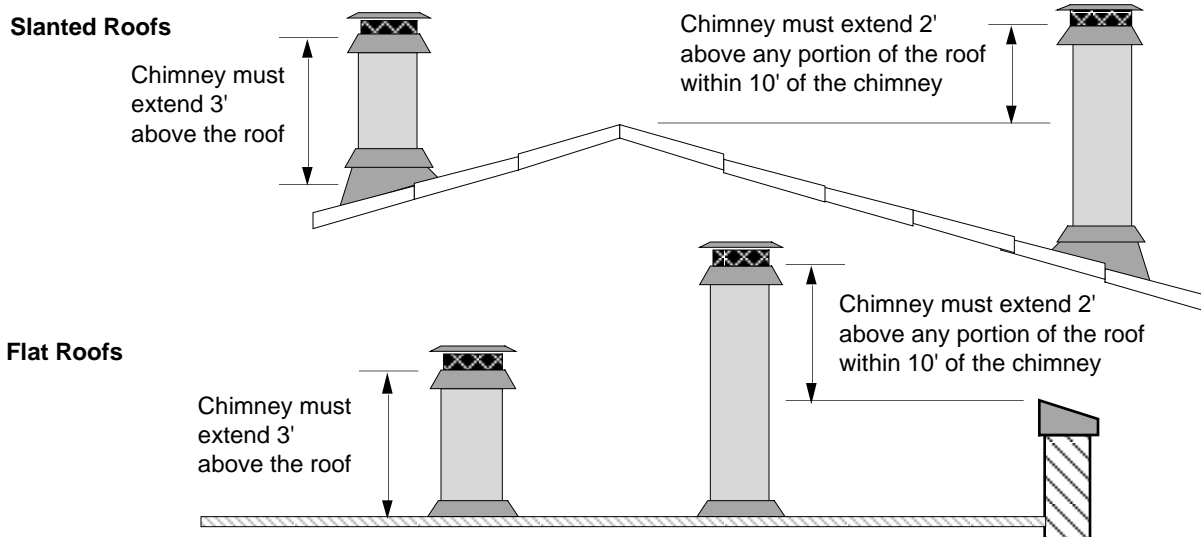

Figure 6
- Must terminate at least 3' above the roof **and** at least 2' above any portion of the roof within 10' (see Figure 6)